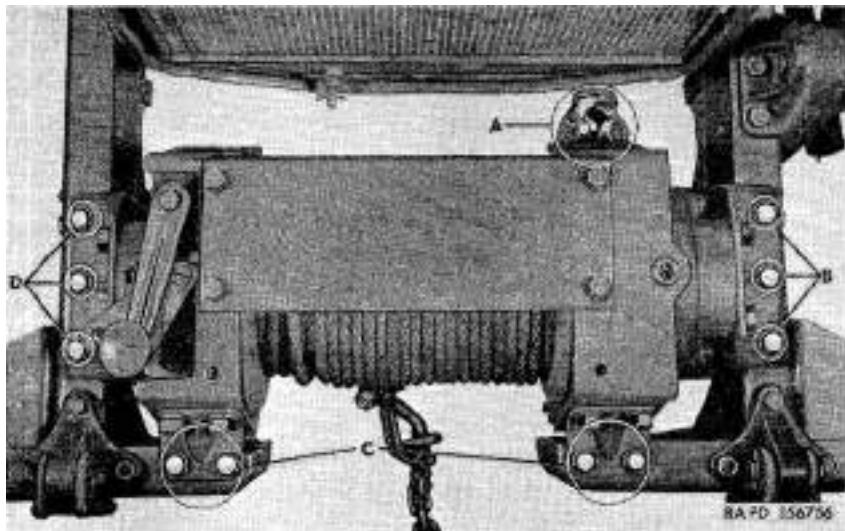

Figure 23. Winch disconnect points.
- (1) Remove cotter pin and shear pin from winch end yoke on winch drive shaft (A, fig. 23).
- (2) Remove locking wire and loosen set screw on collar at splined end of drive shaft assembly. Push drive shaft assembly to rear to disengage front universal joint assembly from winch worm shaft.
- (3) Remove cap screws and lock washers from ~~winch-to-frame~~ brackets and ~~winch-to-bumper~~ brackets (10 cap screws and lock washers) (B, C, and D, fig. 23). Lift winch from frame.